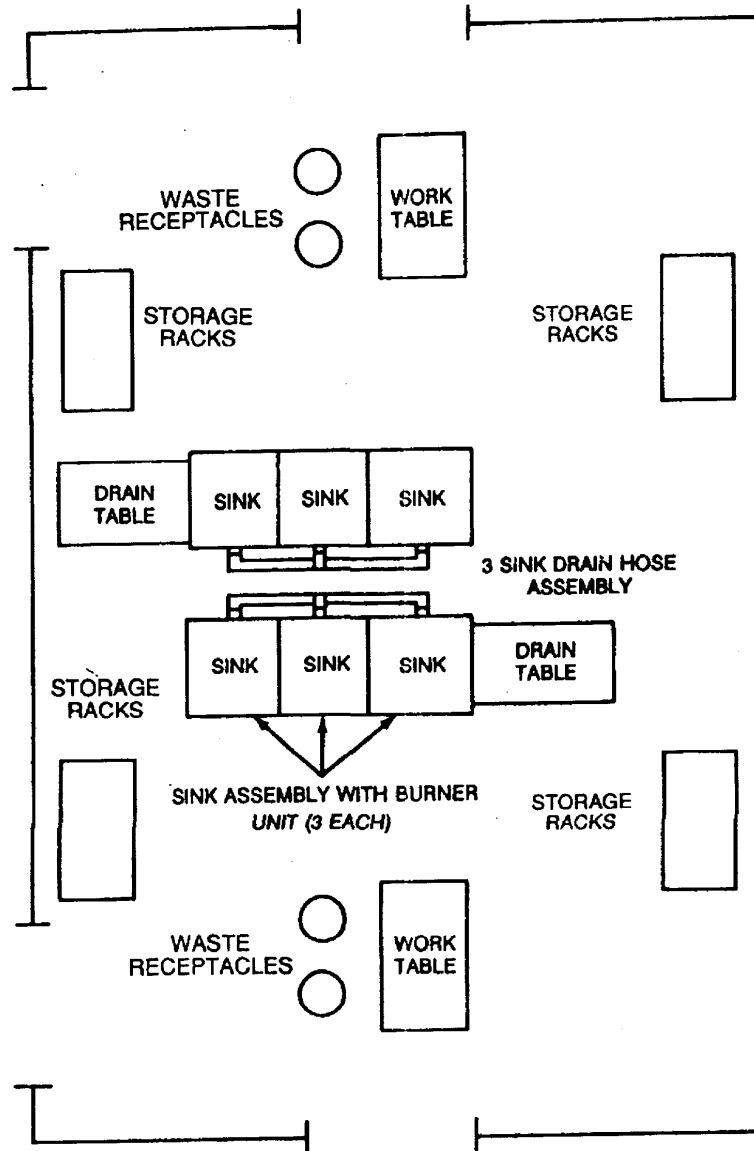

Figure 2-2. Food Sanitation Center – Optional Configuration, Two FSC's Consolidated
(1) General. To sanitize the pots, pans, and utensils used with two or three consolidated MFK's, two FSC's can be consolidated as shown in Figure 2-2. To operate in the consolidated configurations, the site must be large enough to accommodate the combined feeding area for the MFK's as well as the 32 x 20 foot (9.8 x 6.1 meters) sanitation area.
(2) Two FSC's Consolidated. When two FSC's are consolidated and used with two MFK's, the equipment is packed, transported, and unloaded from four standard 2-1/2 ton or 5-ton tactical vehicles, or two vehicles with 1-1/2 ton cargo trailers as described in FM 10-23. To operate in this consolidated configuration, the following FSC major components are required:
(b) Assemble and set up remaining equipment in accordance with procedures in paragraph 2-6 and as shown in Figure 2-2.